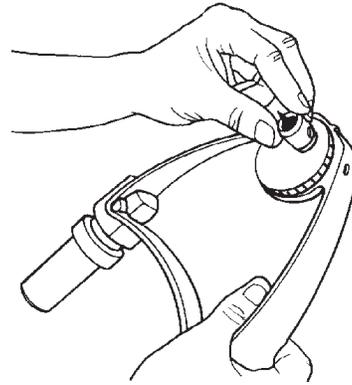

Figure B-115
96. Mount the cup center into the tailstock's adjustable center, as seen in Figure B-115, then mount the tailstock into the base mount (right side). Tighten the mount lock.